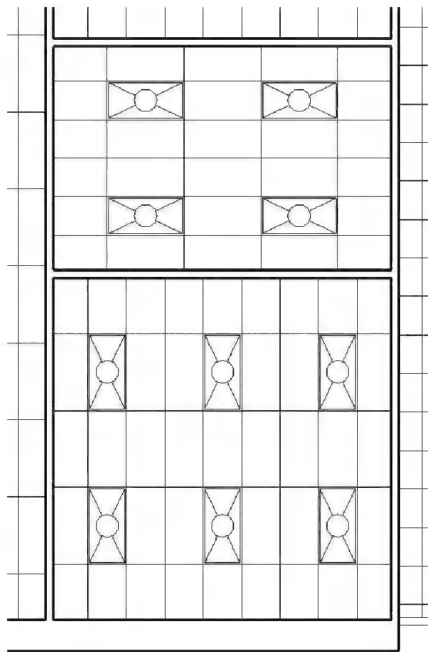

FIGURE 7-3.5 RCP; rotated lights
9. Use **Rotate** and **Move** to rotate the fixture to align with the grid (Figure 7-3.5).
10. Once you have one fixture rotated, it is easier to use the *Copy* tool and the snaps to add rotated light fixtures. **Copy** the light fixture to match the layout in **Figure 7-3.5**.
Revit provides many of the industry standard symbols necessary in drawing reflected ceiling plans (RCP). As shown in Figure 7-3.5, supply air is represented with an X and return air has a diagonal line. It is typical to have a RCP symbol legend showing each symbol and material pattern and list what each one represents.